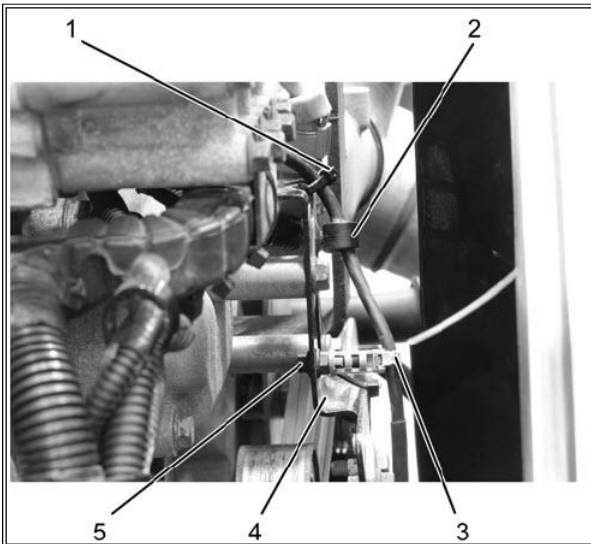

Figure 6. Fan Clutch Harness Reroute
16. Install M6 x 25 mm bolt (Figure 6, Item 5) into fan clutch harness bracket (Figure 6, Item 4), then install M6 prevailing torque nut to bolt and tighten nut to 80 lb-in (9 N•m).
17. Loosely secure fan clutch harness with stud cap tie strap (Figure 6, Item 3) before securing stud cap tie strap to bolt (Figure 6, Item 5). Tighten tie strap when cap is secured to bolt.
18. Remove slack from fan clutch harness, and install harness in upper push pin (Figure 6, Item 2). Verify proper clearance between fan clutch harness and fan clutch harness bracket.
19. Secure fan clutch harness to fan clutch harness bracket with tie strap (Figure 6, Item 1) above upper push pin location (Figure 6, Item 2).